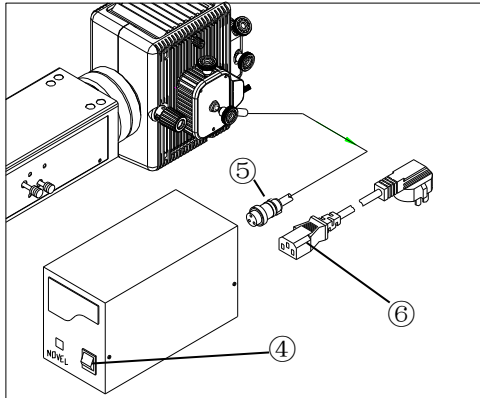
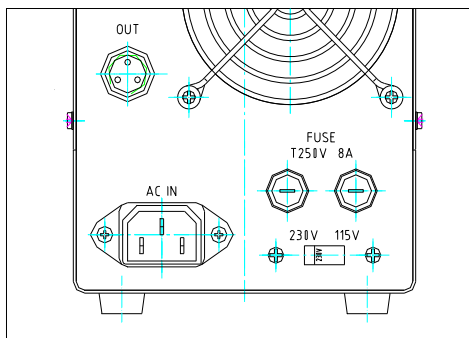

Fig 6
Fig 7
2.5 Assembly of the Fluorescent Attachment (fig.6)
2.6 Cable and Cord Connections (fig.6, fig. 7)